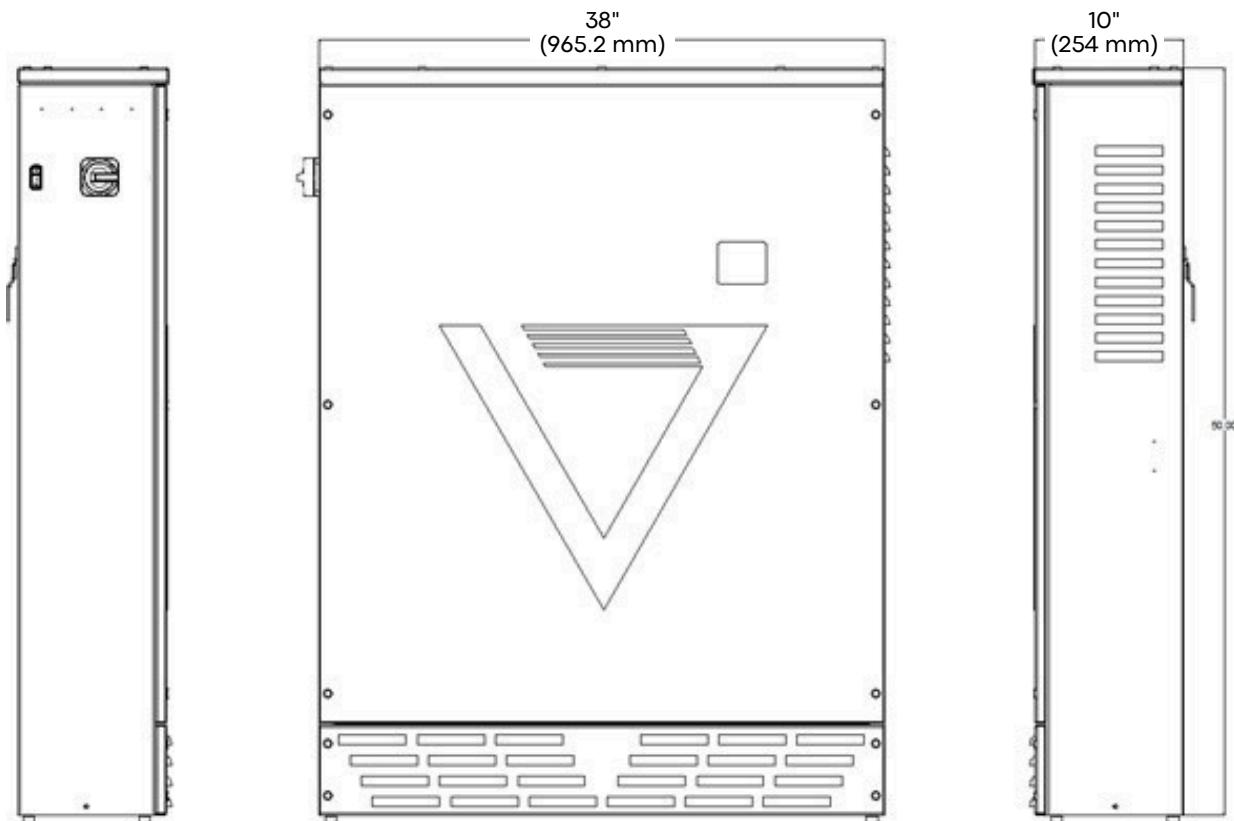

Figure 4
The NV14 Energy Storage System cabinet has four (4) conduit landing locations identified by $\frac{1}{4}$ " (6.35mm) diameter indentations in the upper left side and (2) on the middle right side of the enclosure (refer to Figure 4). It is the responsibility of the installer to determine the best location to punch for conduit knockouts.